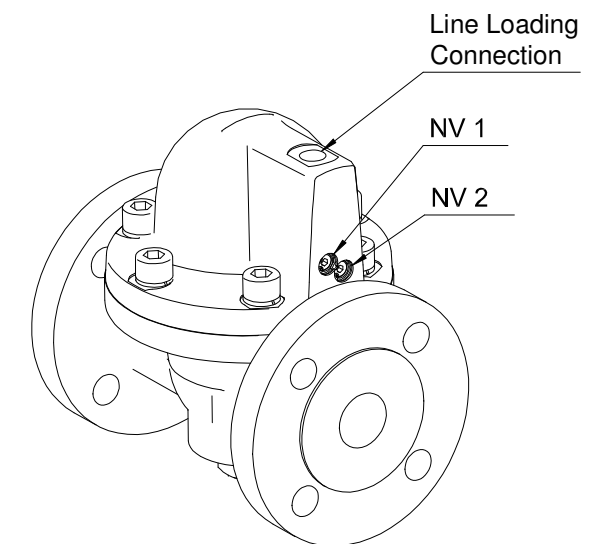

Figure 1 - Needle Valves
- **Loading from the line: SLOWLY** open line loading needle valve NV 1 (See Figure 1) approximately ¼ turn anti-clockwise. Then gently open the other needle valve NV 2 and monitor pressure on the outlet gauge. This should rise as the dome is charged. When correct outlet pressure is reached, **close** needle valve NV 2 (clock-wise) and then **close** line loading needle valve NV 1. **VERY SLOWLY**, open outlet-isolating valve to run system.
- **Loading from an external supply:** Remove plug and connect suitable inert gas or air supply (see figure 1). Slowly open needle valve NV2 to charge dome at the same time monitoring pressure on outlet gauge. When correct outlet pressure is reached, **close** needle valve (clock-wise). Disconnect external supply and refit plug. **VERY SLOWLY**, open outlet-isolating valve to run system.